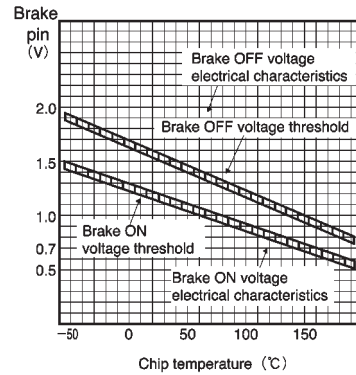

Fig.16 Brake pin threshold vs. chip temperature
The brake pin threshold depends on the chip temperature as shown in Fig. 16. Make sure that your application will work properly when using the IC at low or high temperatures.
(2) The brake circuit has temperature-dependent thresholds as shown in Fig. 16. Make sure that your application will work properly when using the IC at low or high temperatures.
(3) Be sure to connect the radiation fin to the ground.
(4) Hall input